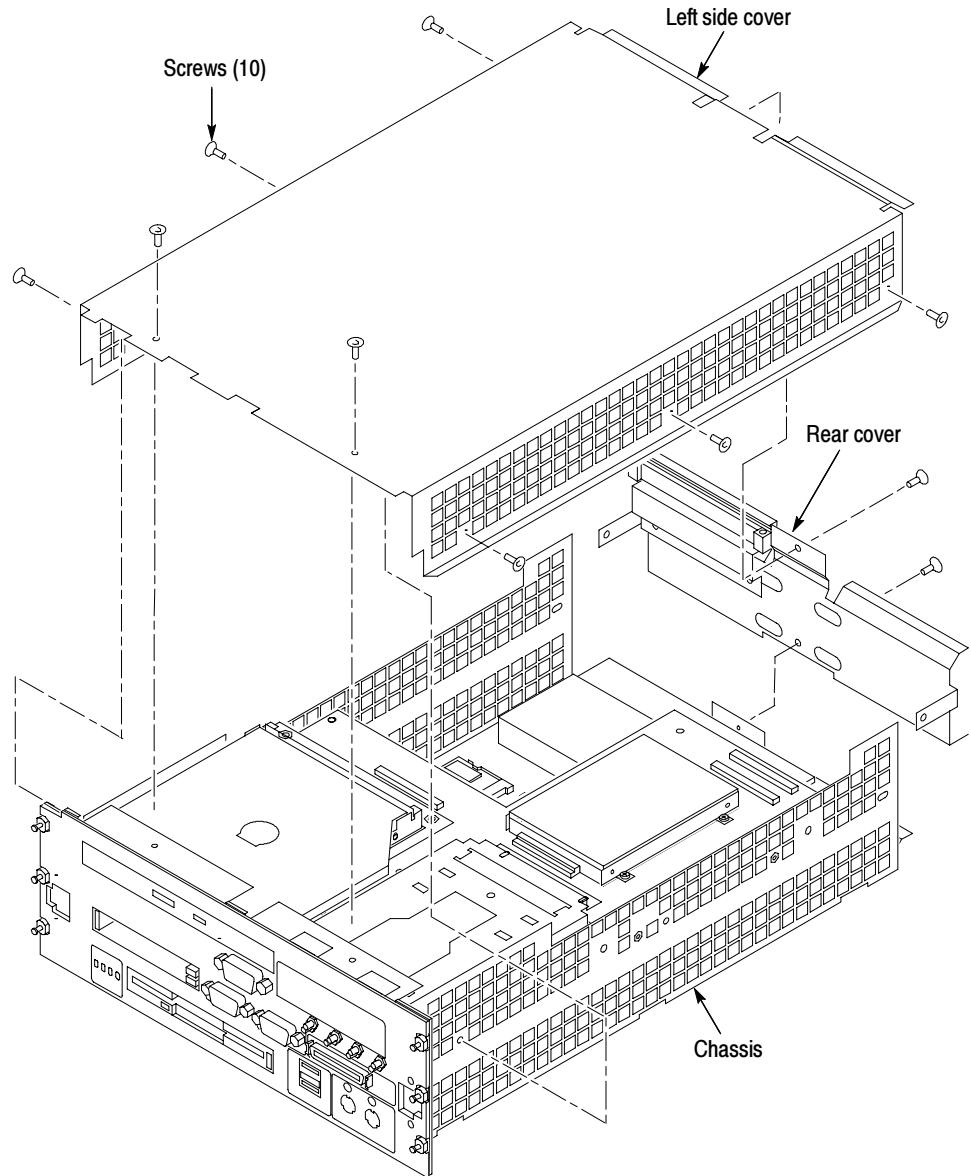

Figure 10: Removing and installing the left and rear covers
Note:* Older TLA720 controllers have eight (8) screws that hold the cover in place. Newer TLA720 controllers have ten (10) screws similar to the TLA721 controllers in Figure 10 on page 20.
Remove the ten flat-head T-10 Torx-drive screws, shown in Figure 10, and lift off the controller left and rear covers.